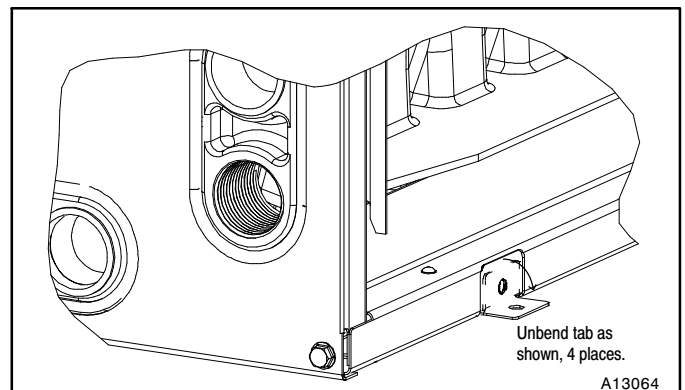

Figure 7 – Horizontal Left Installation
1. Unbend the 4 tabs at the right side of the casing. (See **Figure 7**)